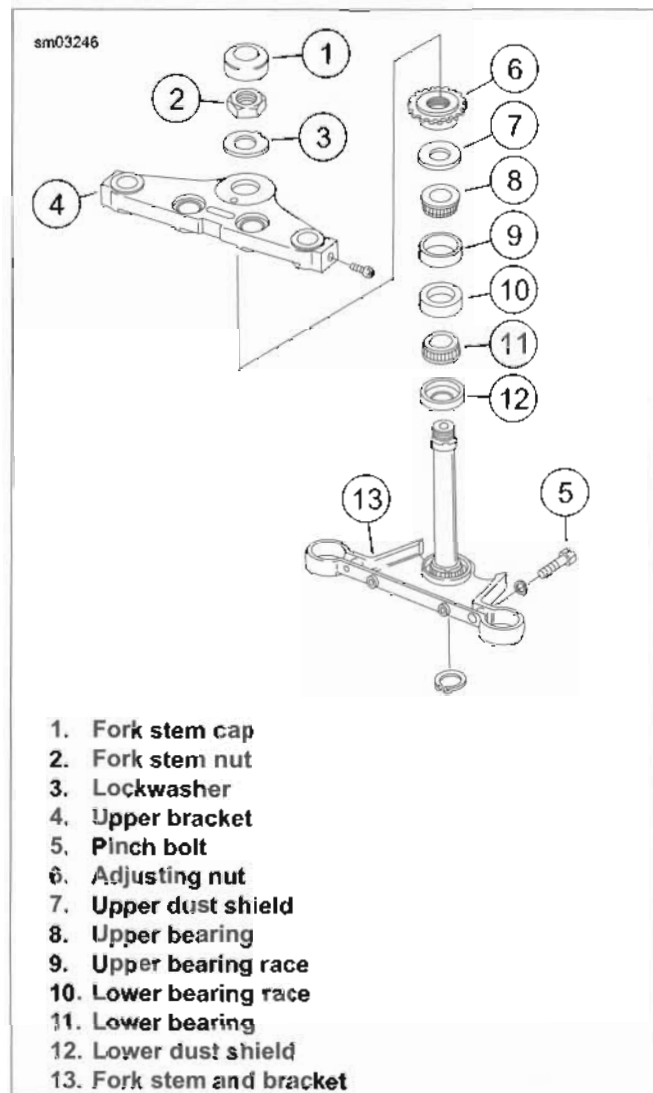

Figure 1-43. Steering Head: FXST
- a. See Figure 1-43. Loosen the upper fork stem bracket pinch bolts (5).
- c. Loosen the fork stem nut (2).
- d. Loosen the bearing adjustment nut (6) slightly.
- d. Tighten the bearing adjustment nut (6) slightly.